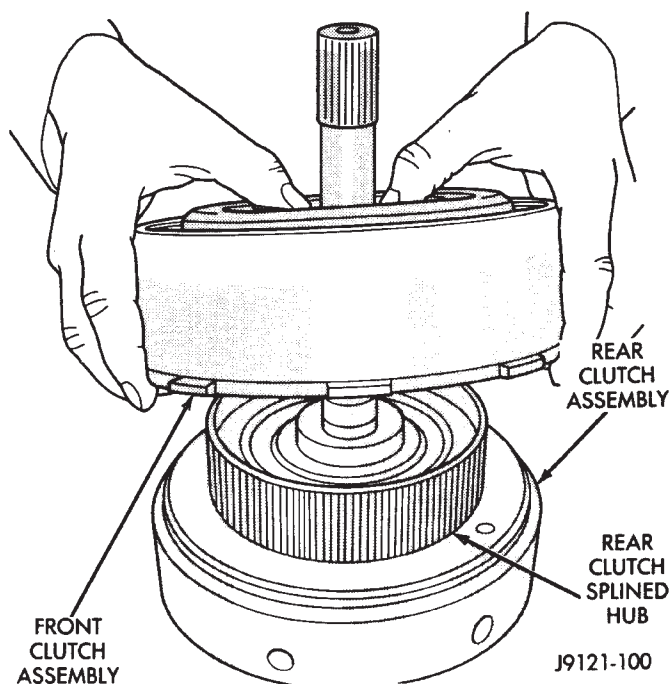

Fig. 144 Assembling Front And Rear Clutches—46RH
(23) Assemble front and rear clutches (Fig. 144). Align lugs on front clutch discs. Mount front clutch